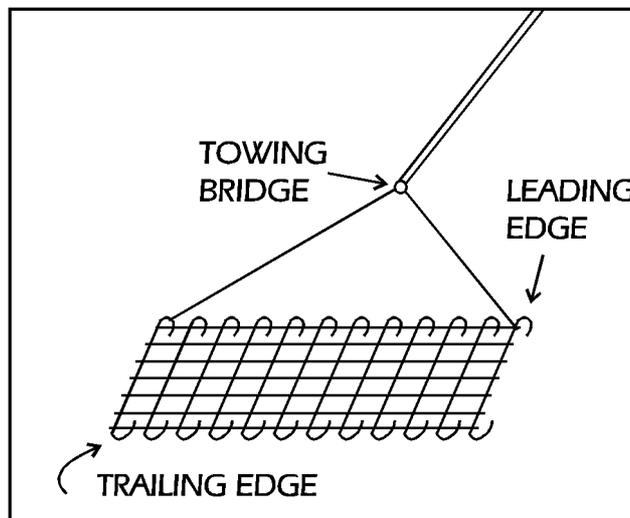

Figure 11:6—Improved Dragging Tool
11.28 When completed, the device may be used either weighted or unweighted. (See Figure 11:6).